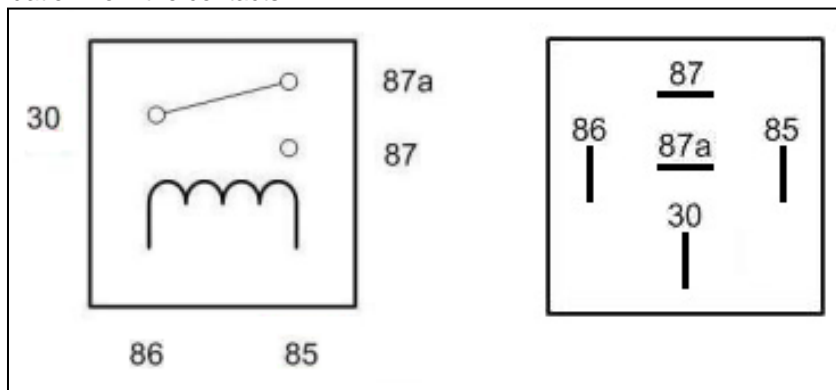

Figure 3-Relay pinout
- ☐ With the multimeter set to Ohms (Ω), measure the resistance between pin 30 and pin 87a of the relay. (Figure 3) The meter should beep or indicate that there is an electrical connection between the pins. A reading of "OL", "NA", or "1" indicates either a bad contact between the meter and the contact on the relay, or that the relay has failed.